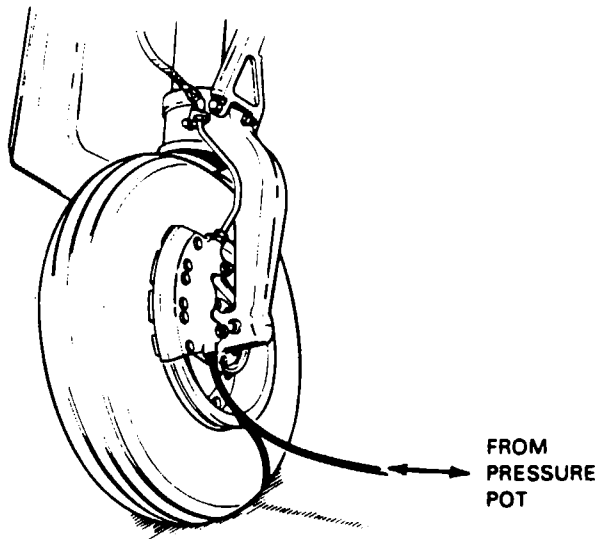

Figure 7-25. Bleeding Brake (Typical)
- c. Slide a hose over the bleeder fitting, loosen the fitting one turn and pressure fill the brake system with MIL-H-5606 fluid. (Refer to Figure 7-25.)